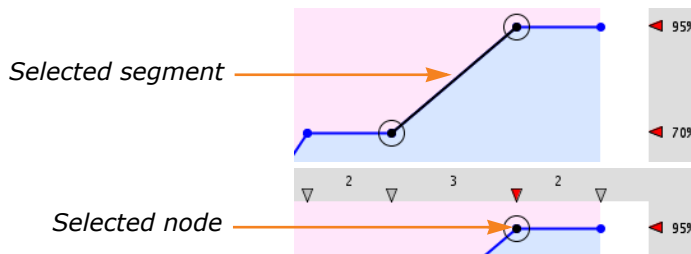

Figure 4-4. Selected Gradient Segment and Node
5. To add a gradient segment, select a segment in the gradient table or the graph (see Figure 4-4) and press **Add**. The new segment will be added after the selected segment.
7. To delete a gradient segment, select it in the gradient table or the graph (see Figure 4-4) and press **Delete**.
- Using the gradient graph: Drag the segment or node to the desired position (with 0.5 CV and 5% resolution). To fine tune (with 0.1 CV and 1% resolution), select a segment or node (see Figure 4-4) and use the ◀ and ▶ buttons to increase or decrease the length of a segment and the ▲ and ▼ buttons to increase or decrease the solvent percentage. The fine tuning buttons are only available when the gradient table is not shown.